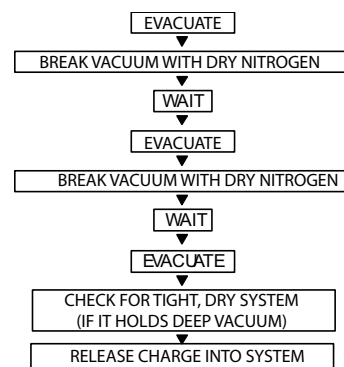

Fig. 19 — Triple Evacuation Method
The triple evacuation method should be used when the vacuum pump is not capable of pumping down to 500 microns and system does not contain any liquid water. Refer to Fig. 19 and proceed as follows:
5. Repeat this procedure as indicated in Fig. 19. System will then be free of any contaminants and water vapor.